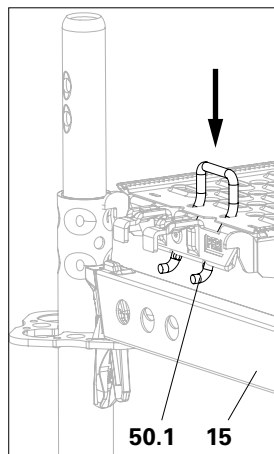
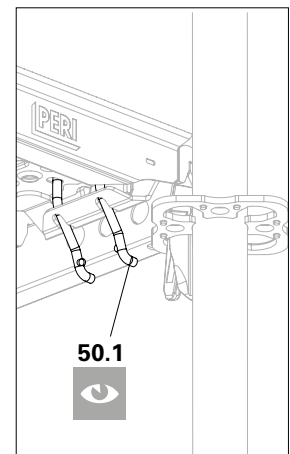

Fig. A7.01c
Fig. A7.01e
3. Lift locks (50.1) fall under the ledger and secure the deck. (Fig. A7.01c - Fig. A7.01e)